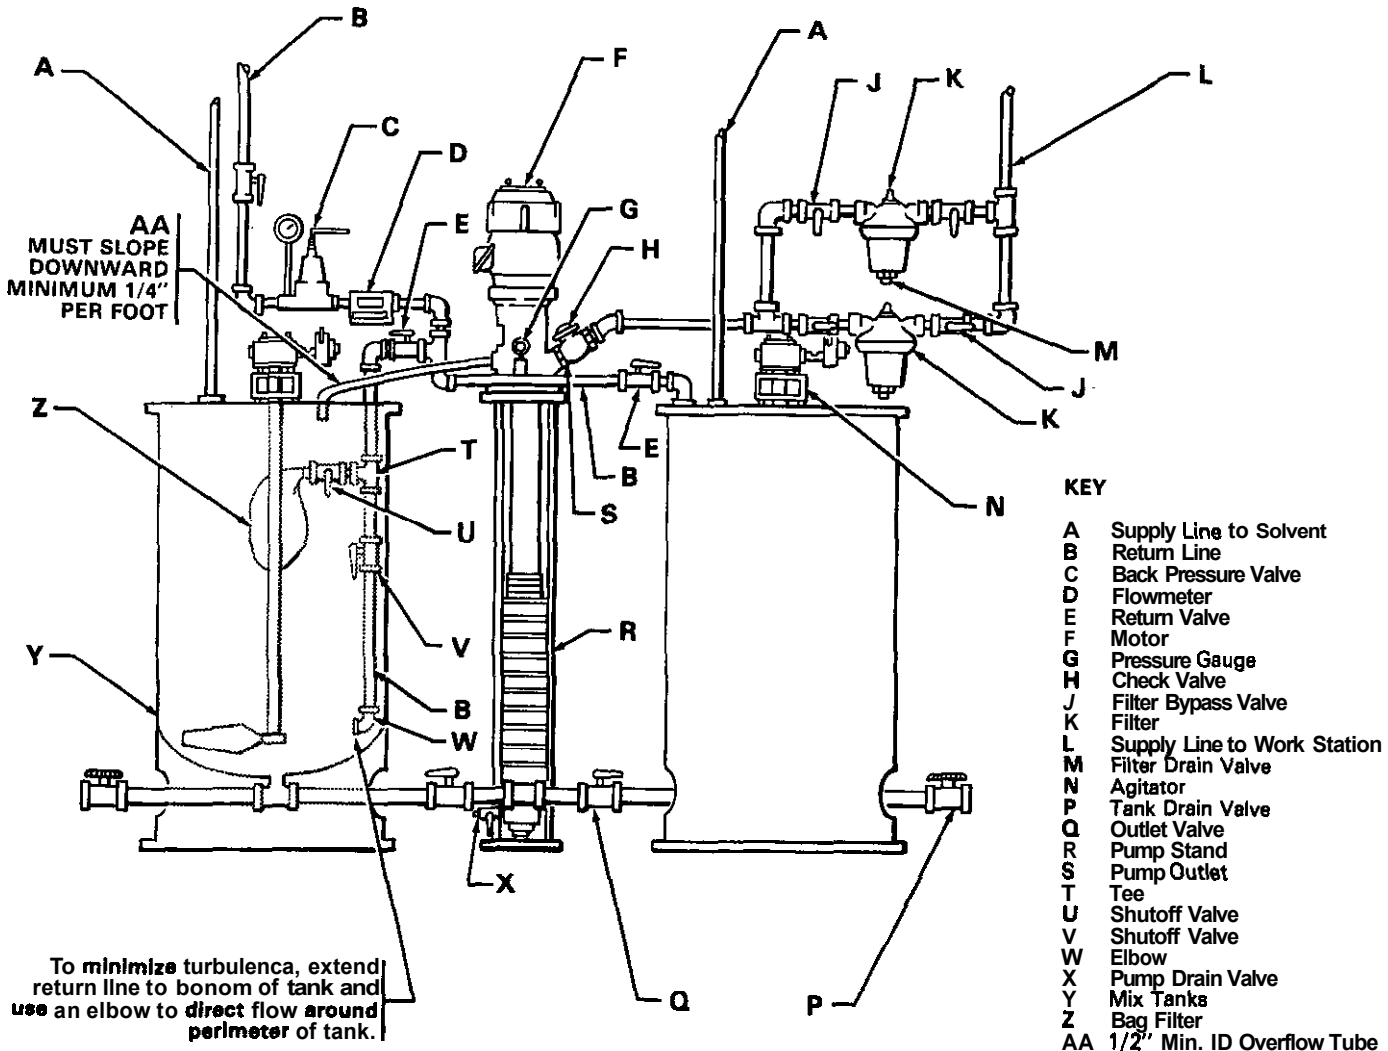

Fig 1
Cleaning, Flushing and Priming System (See Fig 1 and 2)
Attach a cheese cloth hay (Z) of six layers minimum thickness to the return line in the tank as shown in Fig 1 on page 2. Open the valve (U) and close the valve (V).